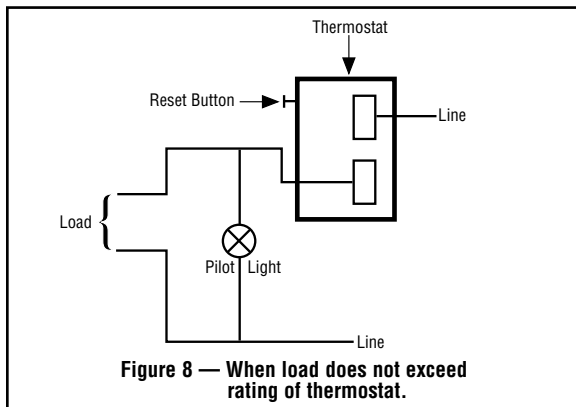

Figure 8 — When load does not exceed rating of thermostat.
6. Connect wires according to wiring diagrams (Figures 8 and 9). **Note:** Electrical connections should be made with generous loops of wire — approximately 6" per lead.